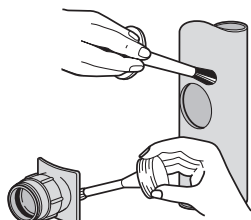

Fig.25c Applying cement
**Step 7** – Apply 9100 Liquid Weld (solvent cement) to all mating surfaces using a clean brush (Fig.25c)